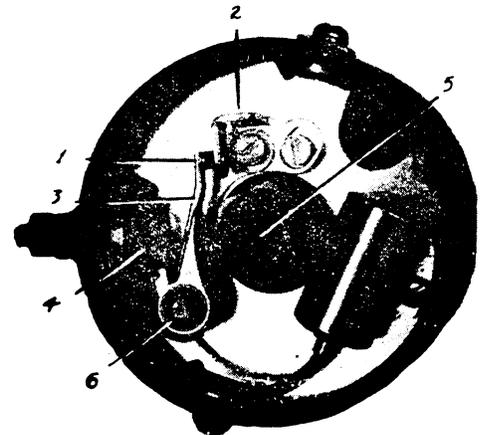

Fig. 60 Distributor Body
(1) Points which show only a slight discoloration and are not badly pitted should be cleaned with a fine point file and reset for a gap
of 0.018 to 0.022 inch. See Fig. 60 (1).
(2) Badly worn or pitted points should be replaced. When replacing points be sure they are properly aligned. Bend stationary arm (2) slightly to align points. Do not bend breaker arm (3).
(1) Hook a spring scale to the contact end of the breaker arm and hold at right angles to the contact surfaces.
(2) Read the scale just as the contacts separate. Scale reading should be between 17 and 20 ounces.
(3) If the scale reading is not within the above limits, loosen the terminal post, holding the end of the spring (Fig. 60 (4)) and slide the end of the spring in or out as necessary.
(4) Tighten terminal post and re-check tension.
(1) Place one drop of light engine oil on the breaker arm hinge pin. See Fig. 60 (6).
(2) Place three drops of light engine oil on the felt in the top of the breaker cam. See Fig. 60 (5).
(3) Place three drops of light engine oil on the governor weight pivots.
(4) Add three to five drops of light oil to the oiler on the outside of the distributor base.